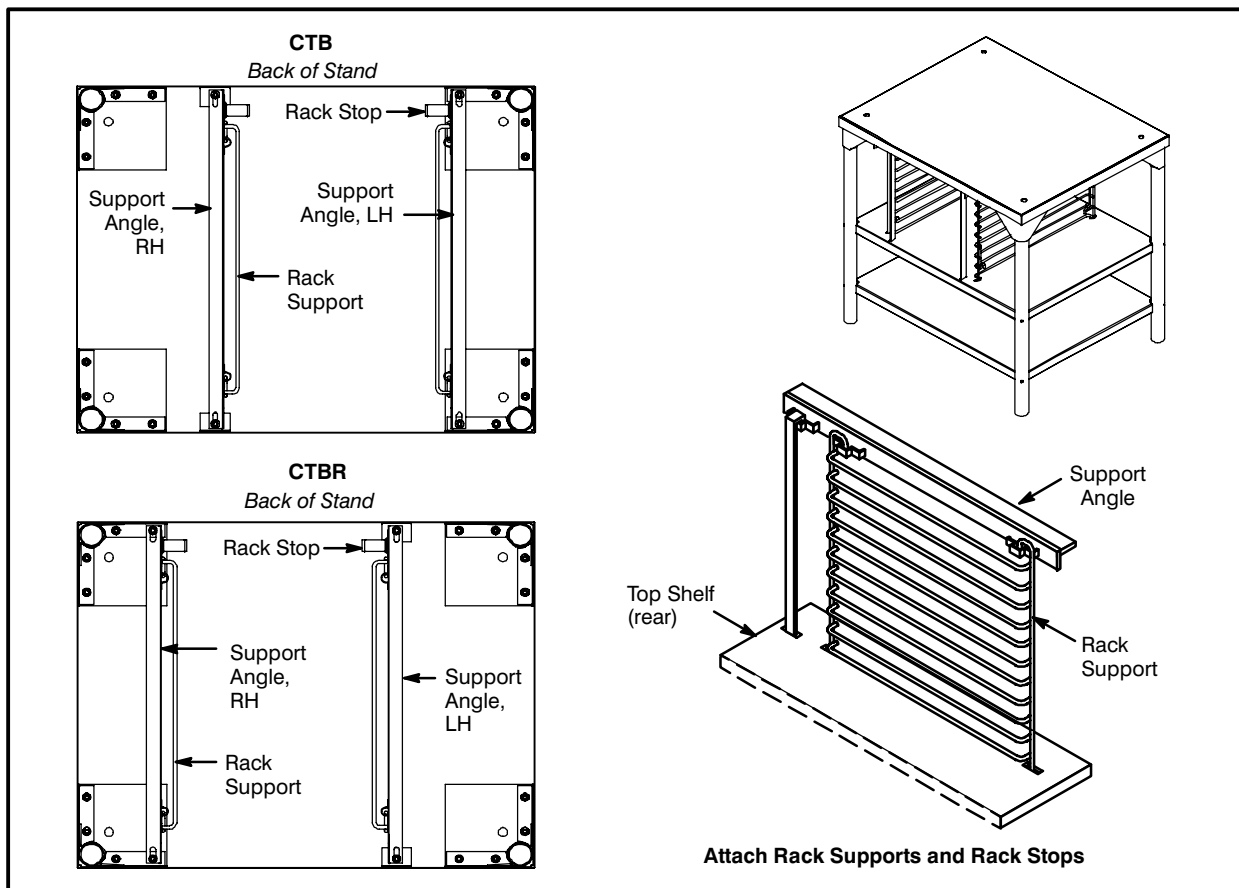

Figure 3
1. Lay stand frame top down on the floor as shown. See Figure 3.
NOTE: Be sure the support angles and clips are located correctly for your oven configuration. See Figure 3.